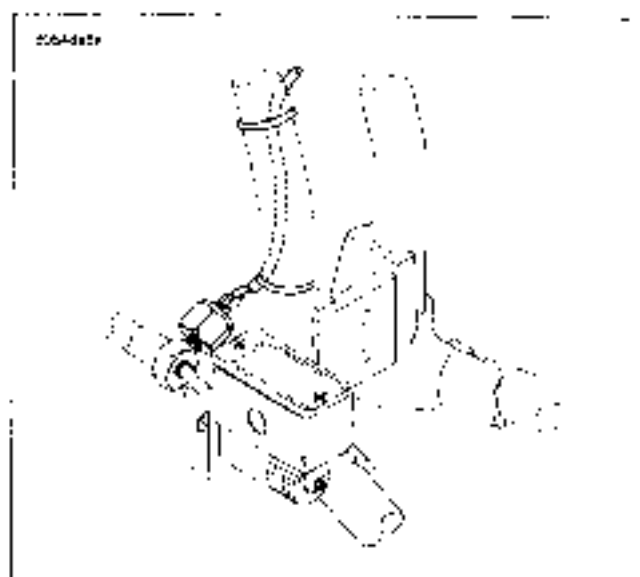

Figure 8-67. Rear Stoplight Switch
See Figure 8-67. The rear stop light switch monitors brake fluid pressure in the rear brake line. When pressure in the line reaches a preset level, the rear stop light switch is tripped and illuminates the tail light/stop light. The rear stop light switch is located on the rear brake line T-fitting.
1. See Figure 8-67. Remove two terminals from rear stop light switch.
2. See Figure 8-67. Install rear stop light switch in T-fitting.